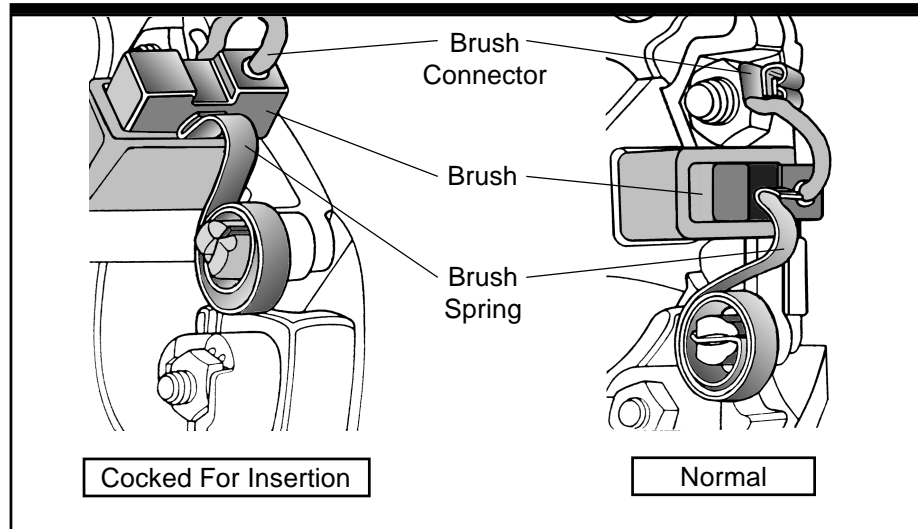

Figure 4-3. DC Motor Brushes (Gasketed Cover Removed)
Step 3—Replace Brushes. Lift the brush spring from the end of the brush (see Figure 4-3). Remove the brush connector, withdraw the brush and inspect the length. To prevent motor damage, brushes should be replaced when or before they reach a length of 0.575" (15 mm). New brush length is 1.03" (26 mm). Reverse procedure to replace brush. Replace motor access and feeder covers. Connect power and air. Initial and date the Maintenance Log.
Step 6—Replace Chain. Replace chain and inspect chain tension (refer to Figure 4-3 page 26).